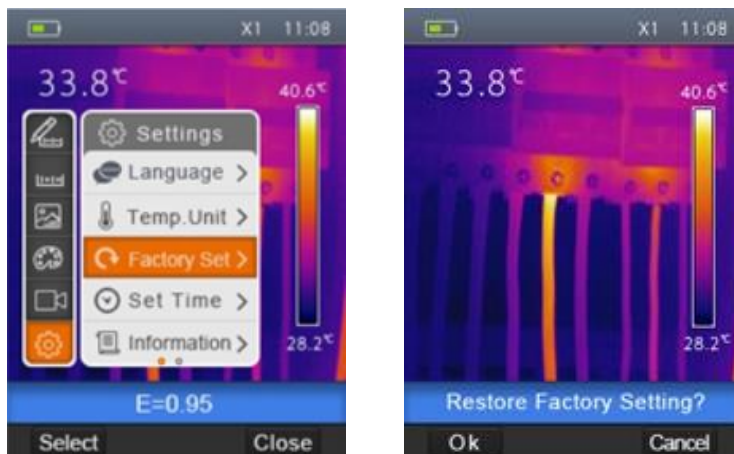

Fig. 10: Setting default conditions on the instrument
1. Select the item "Factory Set" with the keys $\oplus$ or $\ominus$ and press the key $\Rightarrow$. The screen of Fig. 10 – Right side is shown on the display.